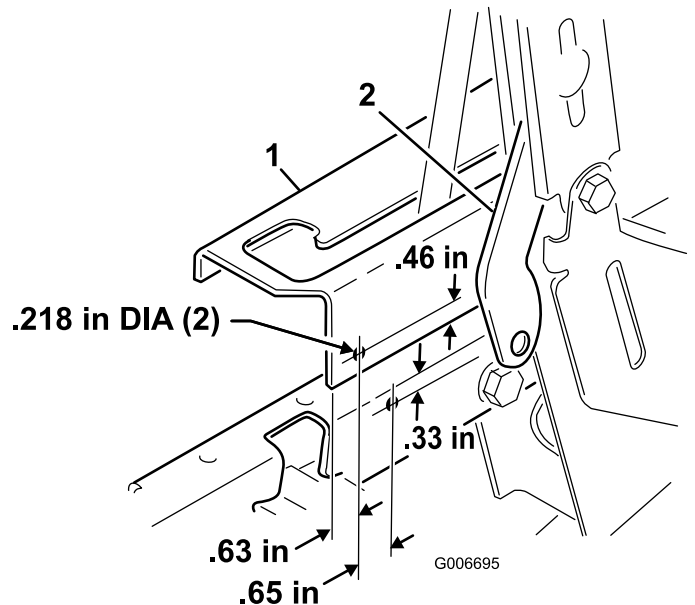

Figure 7
9. Remove (15) screws and washers securing front hood to vehicle frame and remove hood.
10. Insert end of harness, with male and female spade terminals on it, up through opening in vehicle floor board, toward dash panel, following vehicle wire harness. Secure harness to vehicle wire harness with (2) cable ties.
14. Using dimensions shown in Figure 7, locate, mark and drill (2) .218" (7/32") diameter holes in vehicle console.